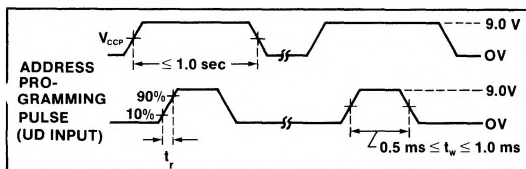

Figure 2. Address Programming Pulse
- Step 3: After V_{CC} has stabilized, apply a single programming pulse (Figure 2) to the user-bus bit that corresponds to the desired high-level \overline{IV} address bit. The I/O port is programmed from the user bus (UD0-UD7) for addressing from the MicroController bus ($\overline{IV0-IV7}$).